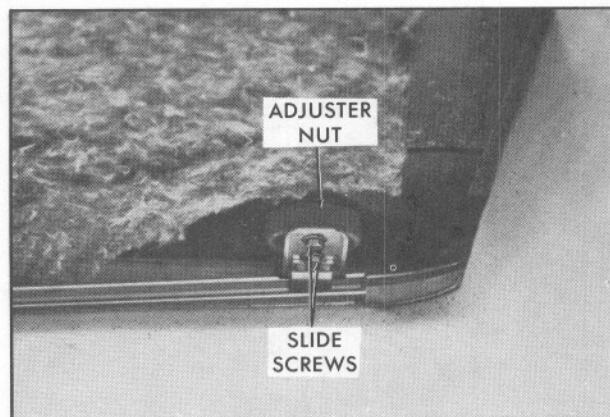

Fig. 15-24 Front Panel Alignment
2. Turn knurled adjuster nut counterclockwise to raise roof panel and clockwise to lower panel, Fig. 15-24.